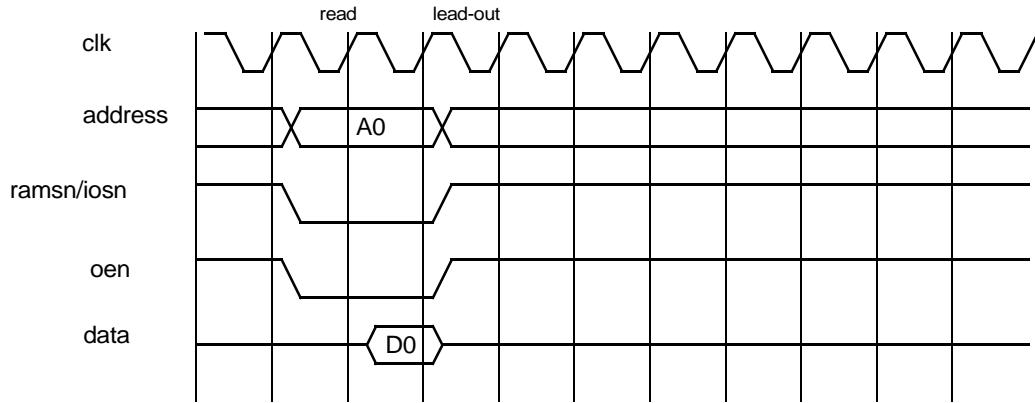
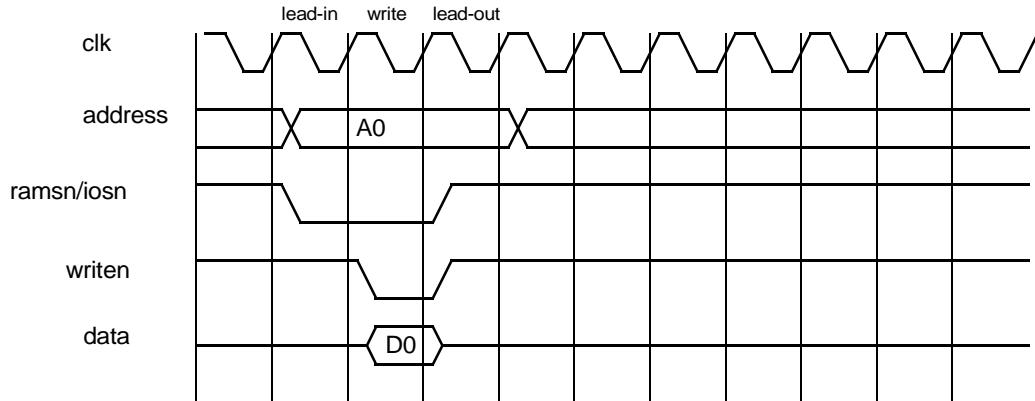

Figure 247. 32-bit PROM/IO read cycle
Figure 248. 32-bit PROM/IO write cycle
For the PROM and I/O operations, a number of waitstates can be inserted to increase the read and write cycle. The number of waitstates can be configured separately for the I/O and PROM address ranges, through a programmable register mapped into the APB address space. After a reset the waitstates for PROM area is set to its maximum (15). Figure 247 and figure 248 show timing diagrams for the PROM read and write accesses.
Read accesses to 32-bit PROM and I/O has the same timing, see figure 247
The write access for 32-bit PROM and I/O can be seen in figure 248